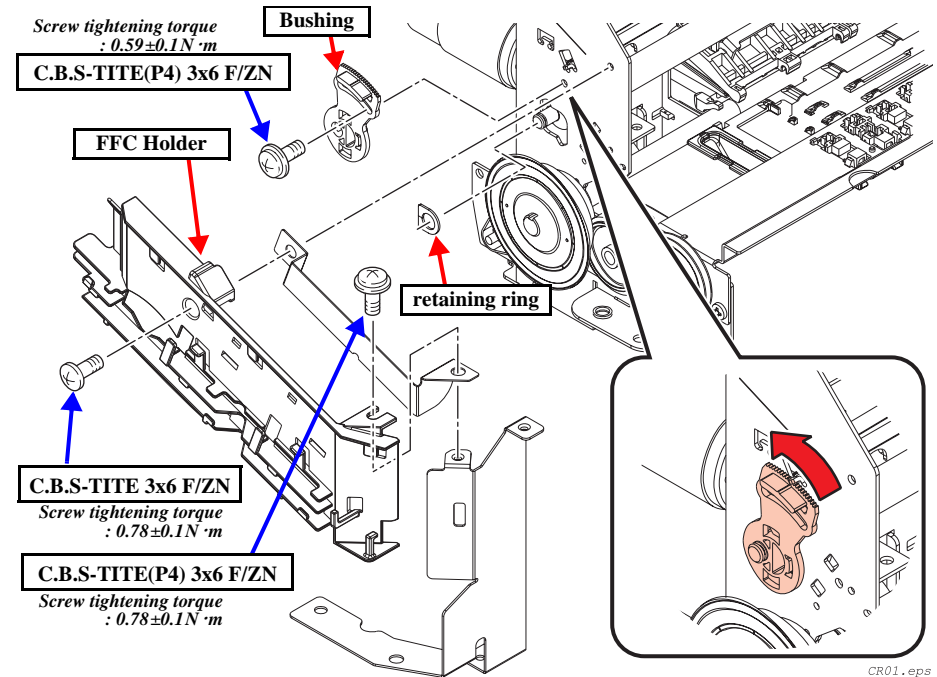

Figure 4-15. Carriage Unit Removal (Left Frame)
7. Remove 2 screws of the FFC Holder on the left side of the printer, then remove FFC Holder from Printer Frame. (See Figure 4-15.)